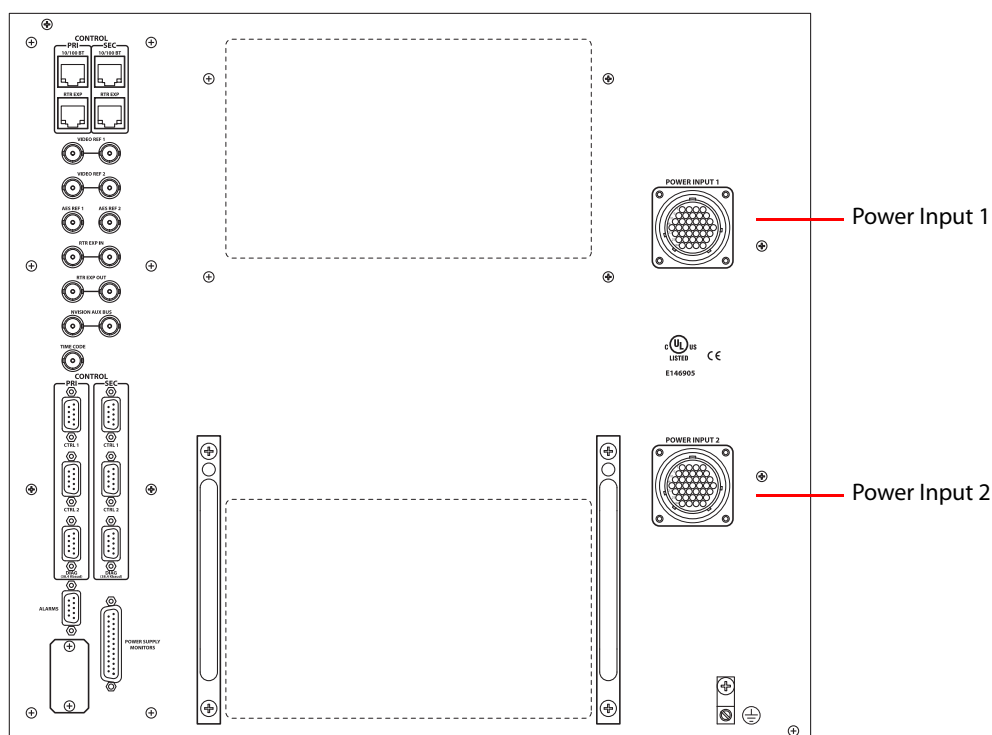

Fig. 8-15: NV8576 Power Supply Monitor and Power Connections
- 9 Facing the rear of the router frame, connect the other end of the WC0154-00 power cable to **Power Input 2**. (See Figure 8-15.)